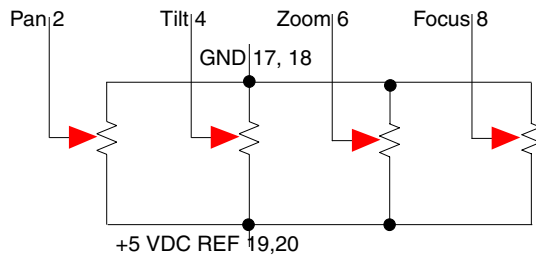

FIG. 4 Typical joystick wiring
FIG. 4 shows typical joystick wiring:
2. Insert each wire into the appropriate opening on the connector. See FIG. 4.